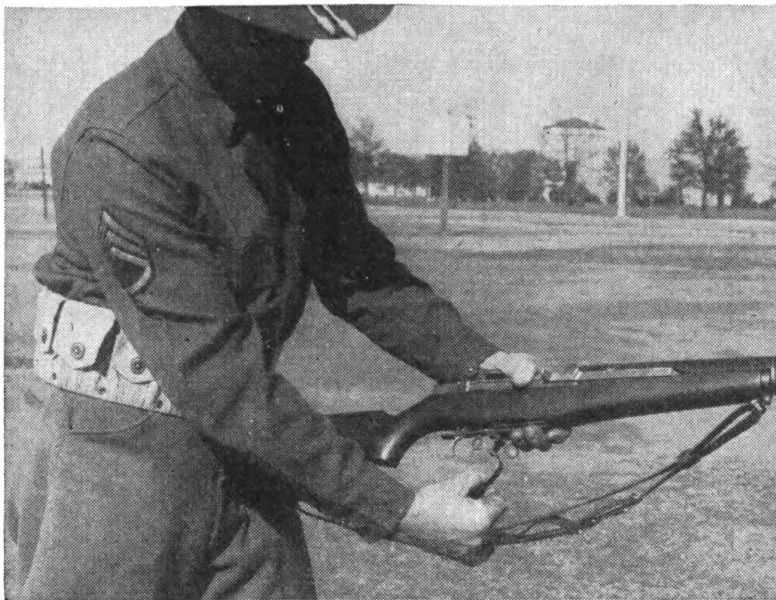

FIGURE 68.—Cocking the hammer without unlocking the bolt.
Q. Can the hammer be cocked without unlocking the bolt? *A.* Yes. In case of misfire or other occasion when it is desired to cock the hammer without unlocking the bolt, unlatch the trigger guard and swing it to its extreme downward position. (See fig. 68.) Close and latch the trigger guard and the rifle is ready to be fired.